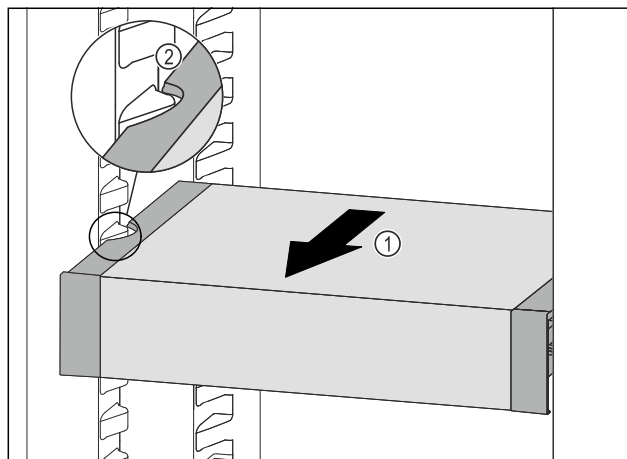

Fig. 139
- ▶ Pull VarioSafe forwards Fig. 139 (1) until the recesses in the side of the VarioSafe are at the level of the support rib in the fridge section. Fig. 139 (2)